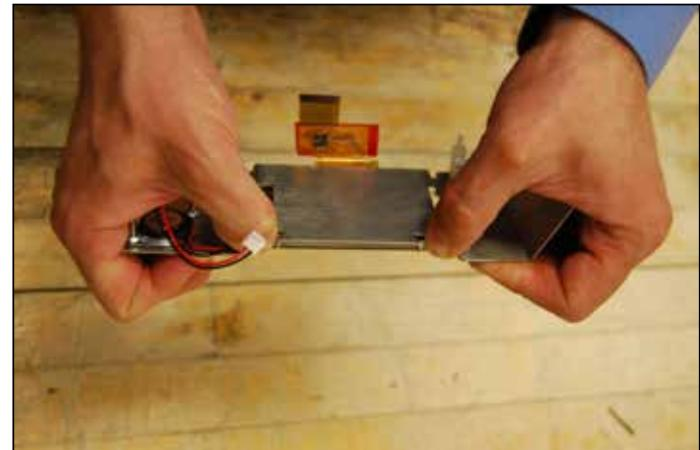

Figure 23e
2. Separate the LCD from the bracket. The LCD may be glued or taped to the bracket. Push evenly with two thumbs to remove LCD from the bracket. (See Figure 23e).